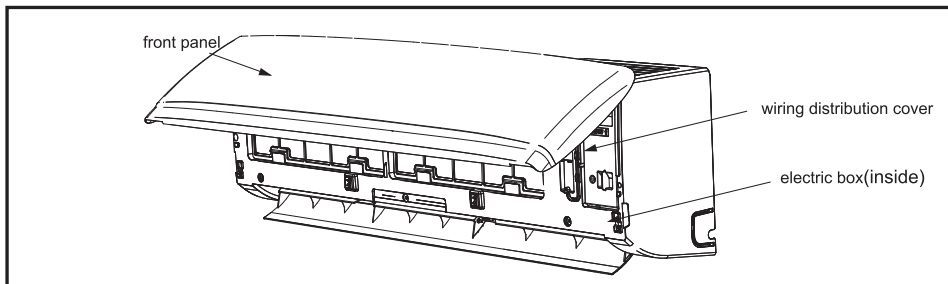
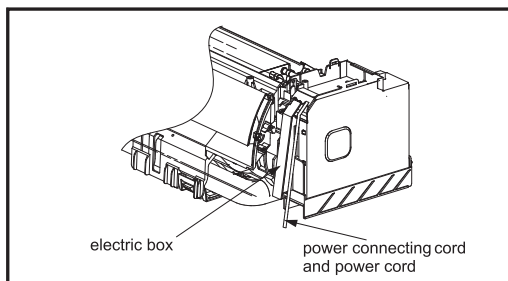

Fig. 16
Fig. 17
- 6). Open the front panel and wiring distribution cover(Fig.16), then guide the power connecting cord and power cord through the guide rail of the electric box(Fig.17).